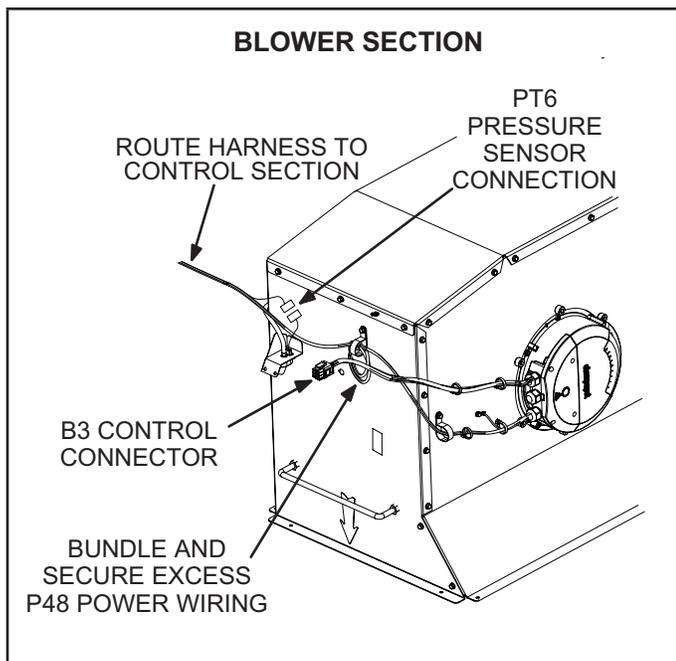

FIGURE 2
- 3 - Disconnect B3 control connection and PT6 connection (LCM/LGM only) in the blower section. See FIGURE 2.
14 - Connect B3 control and PT6 connections as shown in FIGURE 2.